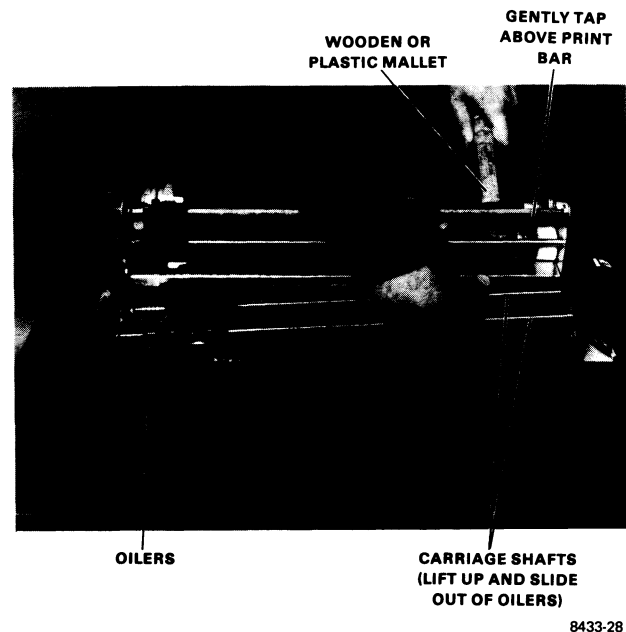

Figure 7-10 Printer Mechanism End Plate Loosening
14. While holding the carriage shafts, gently tap the inside of the right-hand side plate with a wood or plastic mallet directly above the print bar (Figure 7-10). Lift up and pull out the carriage shaft or shafts from the oiler springs and the side plate.
2. Slide the carriage shafts through the oilers (Figure 7-10) to the left end plate.